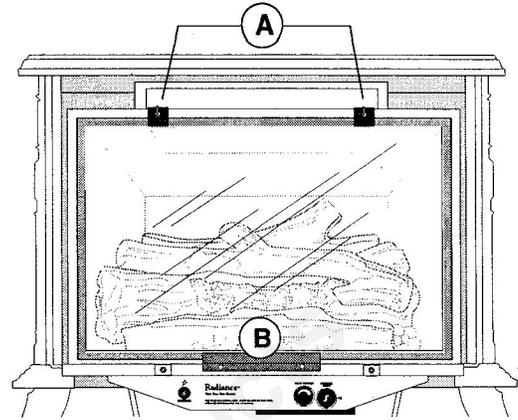

Figure 33. Remove the glass panel.
3. Remove the glass panel by removing the two upper retainer clips (A) and then loosening the lower retainer bracket (B). Lift the glass panel up and off of the firebox frame. See Fig. 33.